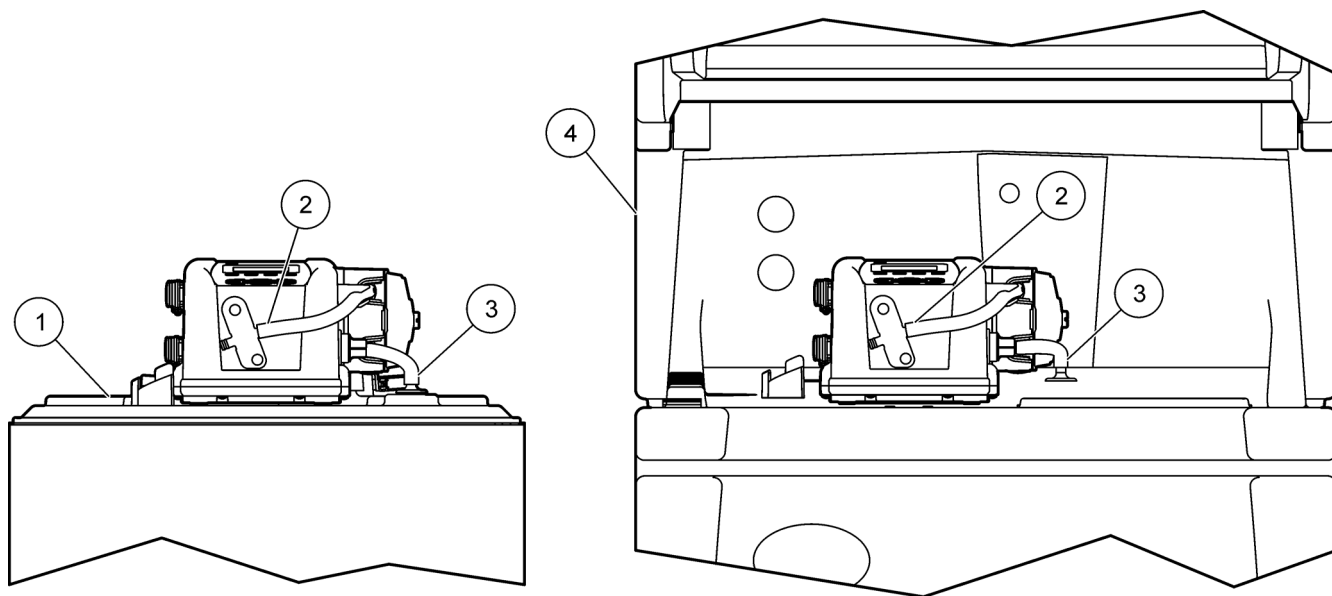

Figure 34 Pump tube installed
6. Connect the open tube end to the tube fitting on the sampler (Figure 34).